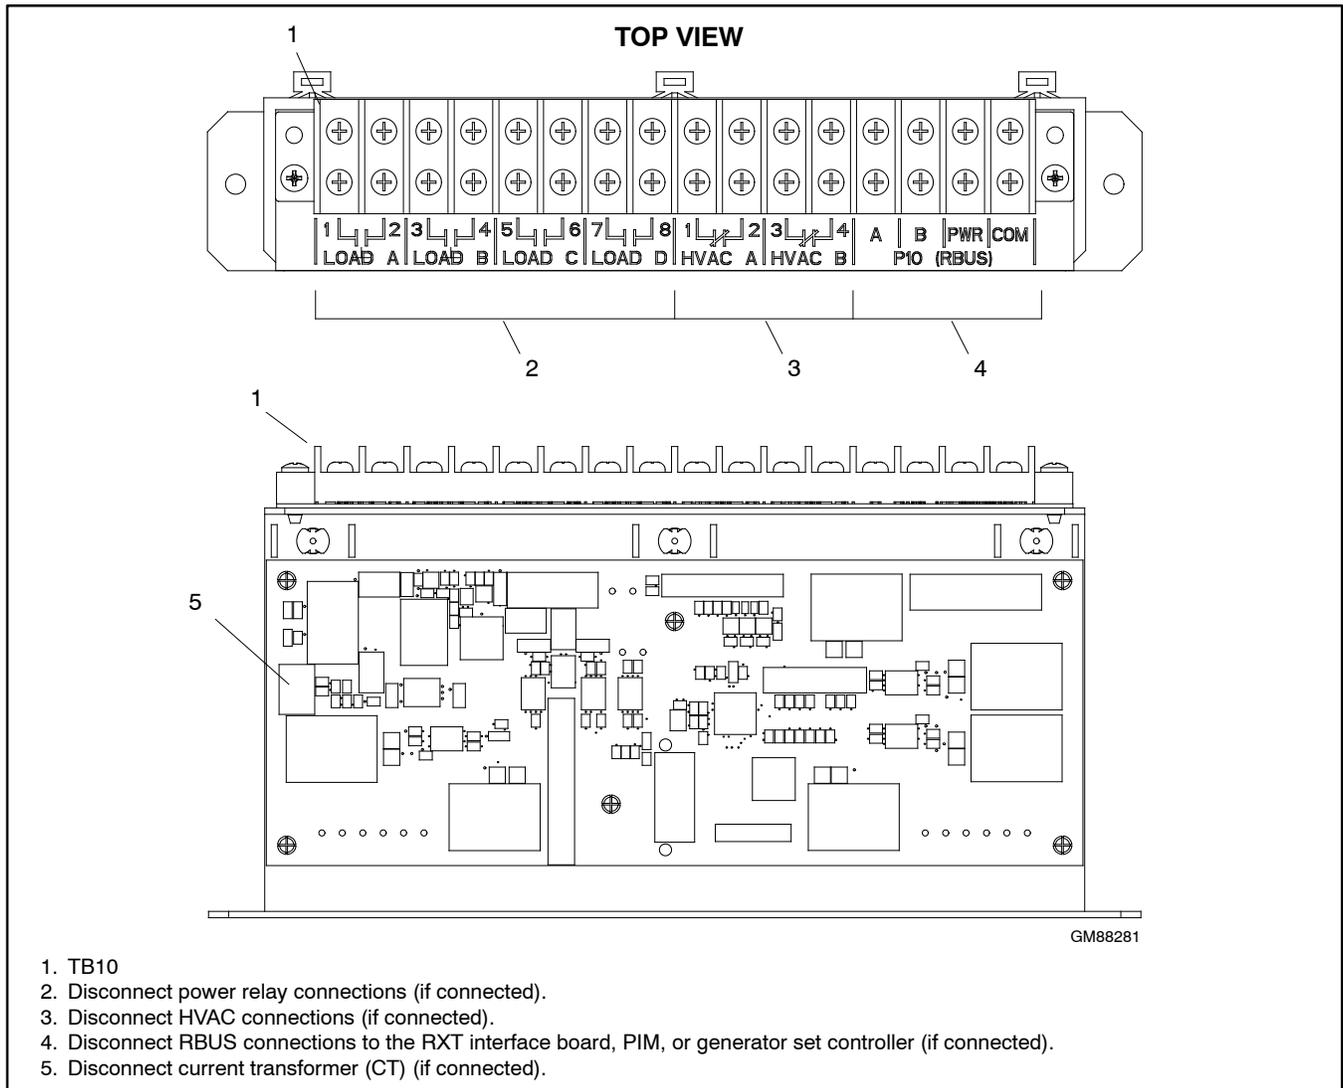

Figure 32 Disconnecting the Load Shed Kit to use a Load Control Module (LCM)
- Disconnect the four RBUS leads from the load shed kit to the RXT interface board. See Figure 32.
- Disconnect any relay, RBUS, and CT connections to the load shed kit. See Figure 32.